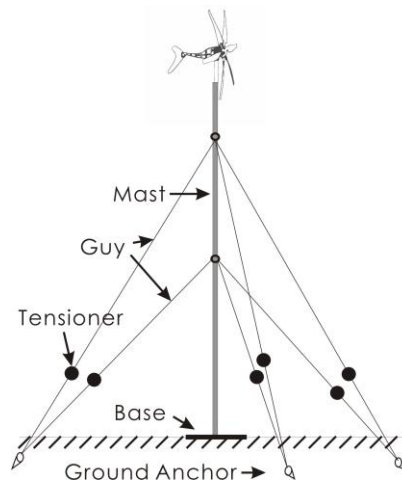

Figure 5: Mounting using guy wires
2. A suitable mounting pole can be erected using a 6 meter galvanized pipe supported by 3 or 4 guy wires (Refer to Figure 5).